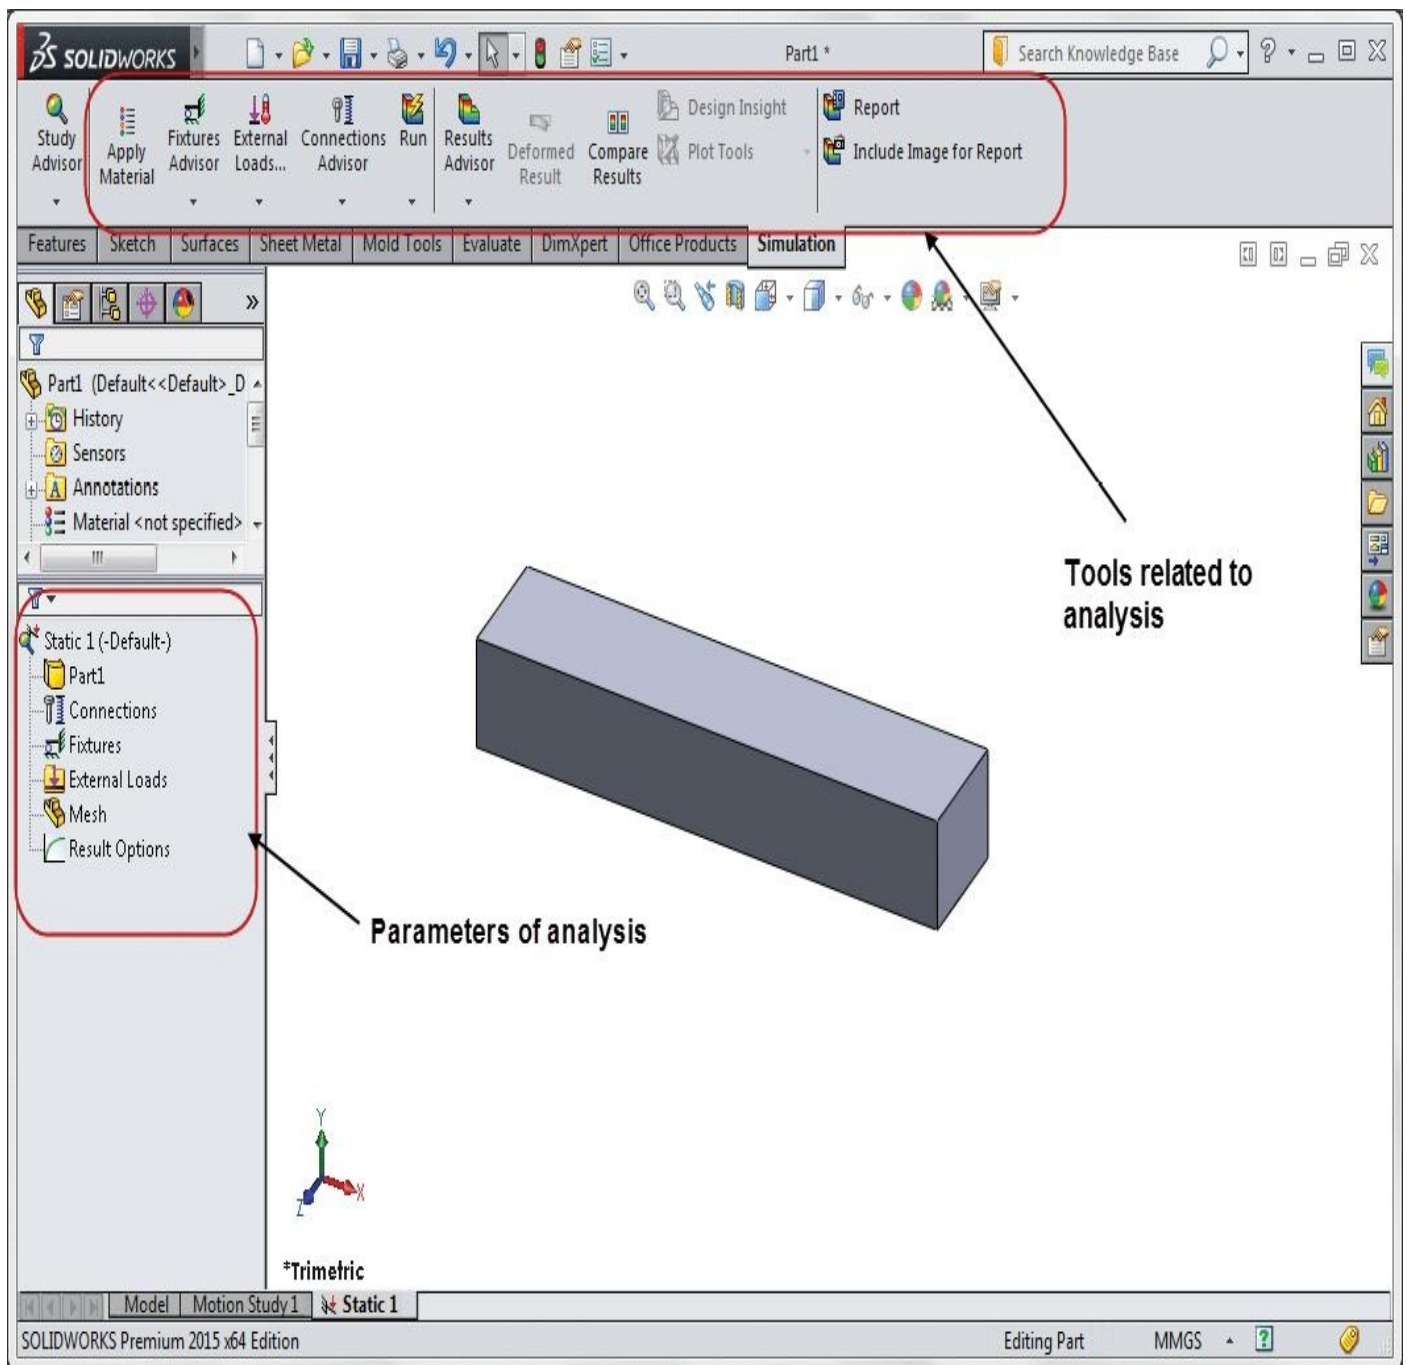

Figure-1. Static analysis interface
- Click on the **OK** button from the **PropertyManager**. The interface will display as shown in Figure-1.